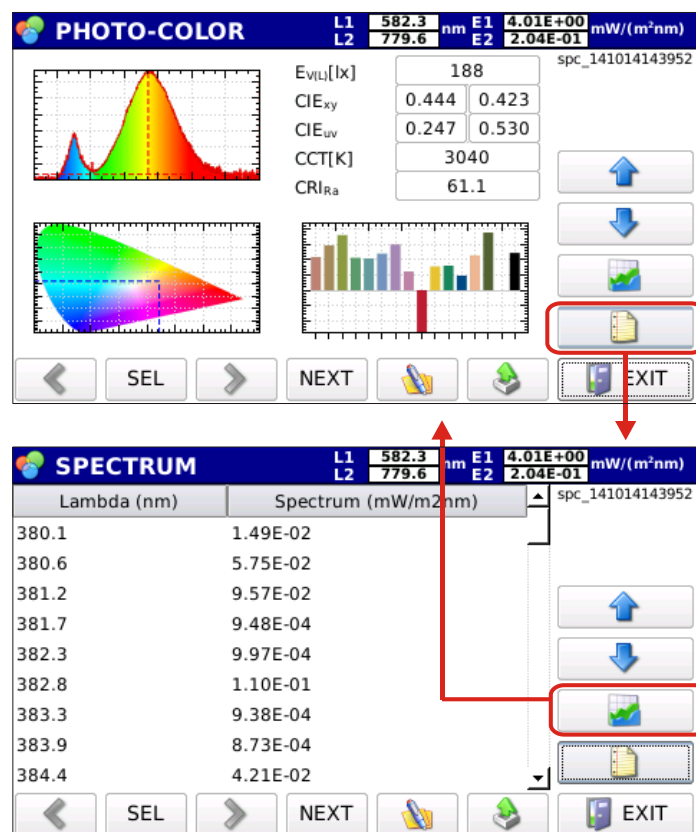

Fig. 4.14: spectral irradiance data in text format
4.6 Press  to display (Fig. 4.14) the spectral irradiance data in steps of 1 nm.